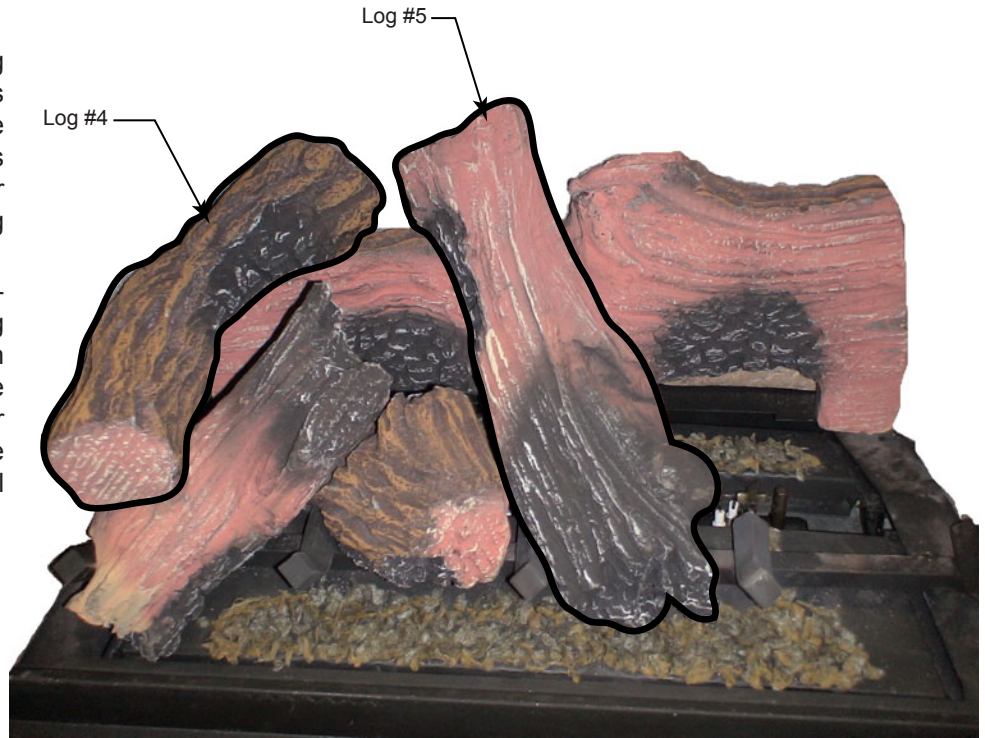

Figure 27
- 6. Install log #4 onto log #1 and log #3 by placing rectangular notches on bottom of log #4 onto the rectangular protrusions on logs #1 and #3. Make sure the ember and bark area of the log is facing in. *Figure 27*
- 7. Install log #5 by placing rectangular notch on the bottom of the log onto the rectangular protrusion in the center of log #1. Place the front of log #5 onto the grate bar to the right of the center grate tine. Push the log to the left until it stops. *Figure 27*